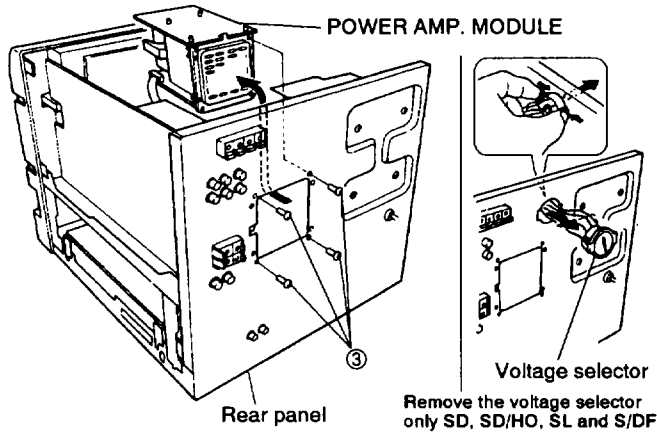

Fig. 4 Remove the POWER AMP. module.
2.3 PICKUP ASSY (See Fig. 4 and 5.)
2. Remove four screws ③ to remove the POWER AMP MODULE. (Fig. 4)